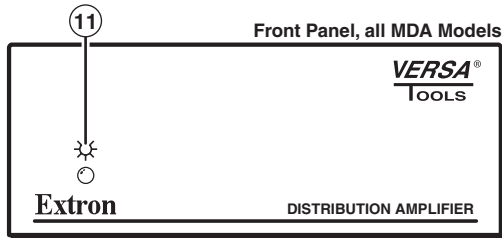

Figure 13 — MDA 3 Series front panel (all models)
- ⑪ **Power LED** (figure 13) — When lit, this LED indicates power is applied to the MDA.